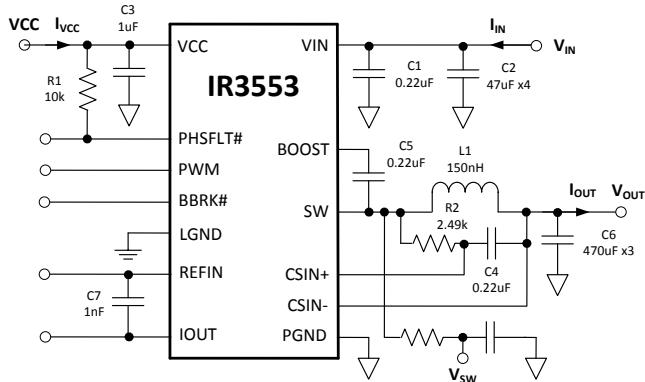

Figure 32: IR3553 Power Loss Measurement
Circuit of Figure 32,  $V_{IN}=12V$ ,  $V_{OUT}=1.2V$ ,  $f_{SW}=400kHz$ ,  $L=150nH$  (0.29mΩ),  $VCC=7V$ ,  $T_{AMBIENT}=25^{\circ}C$ , no heat sink, no air flow, 8-layer PCB board of 3.7" (L) x 2.6" (W), no PWM controller loss, no inductor loss, unless specified otherwise.
The single-phase IR3553 efficiency and power loss measurement circuit is shown in Figure 32.